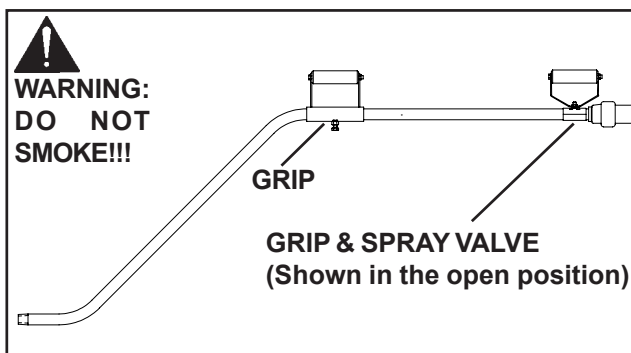

FIGURE 3-25. HANDSPRAY WAND
7. Hold the spray wand **firmly** by the hand grips (Figure 3-25). The grips will remain cool while the hot asphalt flows through the wand.